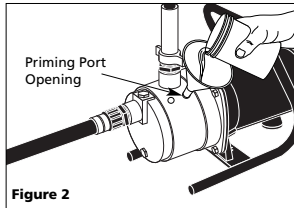

Figure 2
- Remove priming port on pump and fill with water. Reinstall priming port on pump (see Figure 2). For boosting water pressure: Do not remove priming port. Turn on water supply.